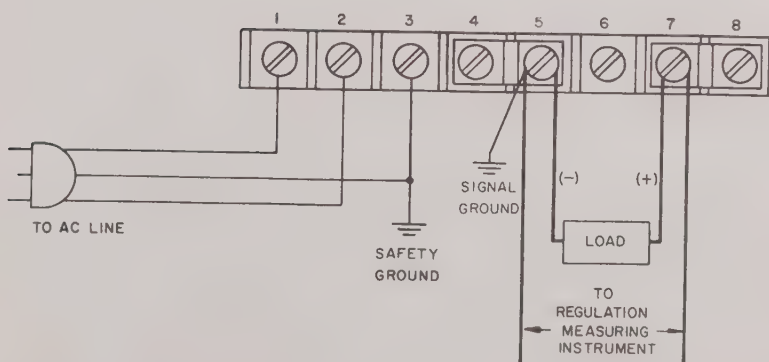

FIG. 5-3 APPROXIMATION OF A FOUR TERMINAL NETWORK
- b) The Four-Terminal Network is an essential device for precise measurement of regulation. It can be approximated by the method shown in FIG. 5-3.
- FIG. 5-3 shows the proper location of instrument leads when measuring regulation. The principle governing this method of measurement is simply not to measure any voltage drops due to load current flow. This can only be avoided by measuring regulation with the test set up connected as shown in FIG'S 5-2,5-3.